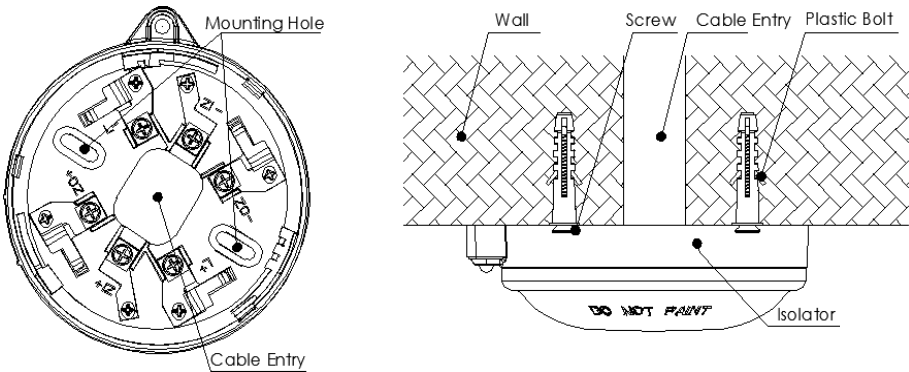

Figure 2 Wiring Diagram
3. Figure 2 is the installation of the isolator Base. The isolator base can be installed on the wall with screws through the mounting holes. The wires are connected to the terminals of the isolator through the cable entry.